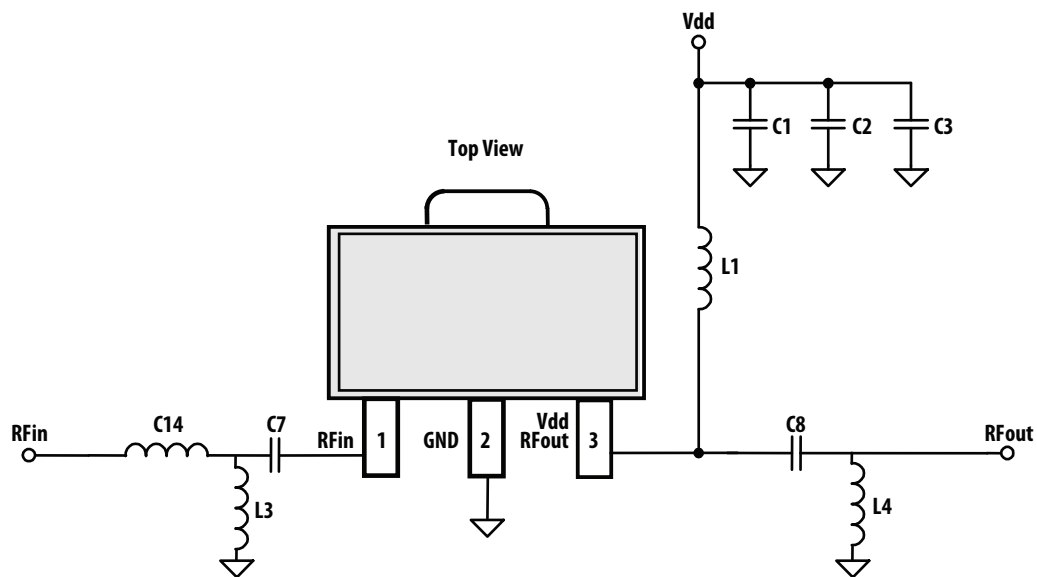

Figure 30. Application Schematic
1. Measurements obtained using demo board described in Figure 30 and 31. 3.5GHz data was taken with 3GHz - 4GHz Application Test Circuit and 5GHz data with 4GHz - 6GHz Application Test Circuit respectively.
$T_A = 25^\circ\text{C}$, $V_{dd} = 5\text{V}$, Input Signal = CW unless stated otherwise. Application Test Circuit is shown in Figure 30 and Table 1.
$T_A = 25^\circ\text{C}$, $V_{dd} = 5\text{V}$, Input Signal=CW. Application Test Circuit is shown in Figure 30 and Table 2.
$T_A = 25^\circ\text{C}$, $V_{dd} = 5\text{V}$, Input Signal=CW. Application Test Circuit is shown in Figure 30 and Table 3.